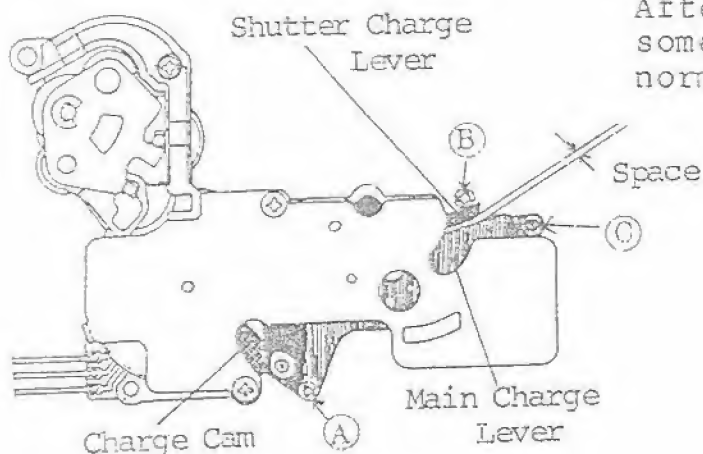

Fig. 1: Charge Complete
Unsolder in this order: Fig. 1,5,4,3,2.
1. With the camera in operatable condition, unsolder the connections shown in figure 1 on page 17 and the self-timer LED unit. This frees the front tongue of the main flex.
7. Remove the solder bridge from (1) to GND in Fig. 1.
8. Connect Fig. 1 (1) and Fig. 3 (2) with a jumper.
2. If not within tolerances, change the adjusting collar (Fig. 1).
The 1st curtain sets first and then the 2nd curtain. To insure proper setting of the 2nd curtain, after adjustment (B) must have some possible movement in the normal direction (Fig. 1).